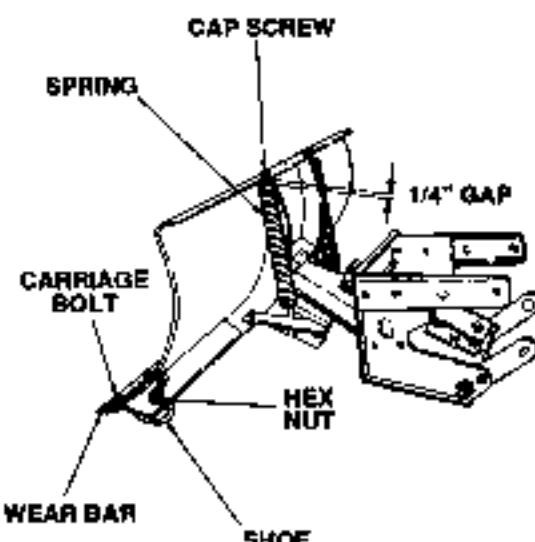

Figure 7-23. Adjusting the Blade.
- Adjust the skid shoes (refer to Fig. 7-23) to the appropriate position for the job being performed as follows:
- If the wear bar (see Fig. 7-23) becomes worn, reverse or replace the bar as follows:
- Maintain the proper trip spring tension (see Fig. 7-23) as follows: